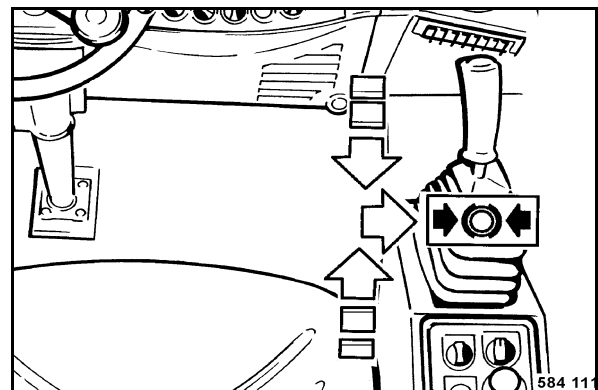

Fig. 47
- Check, whether the travel lever (Fig. 47) is engaged to the right in brake position.